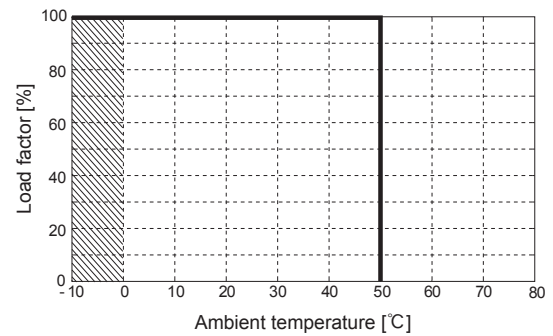

Fig.6.1 Ambient temperature derating curve
- Option -Y1 unit's derating curve depending on an ambient temperature is shown in Fig.6.1.